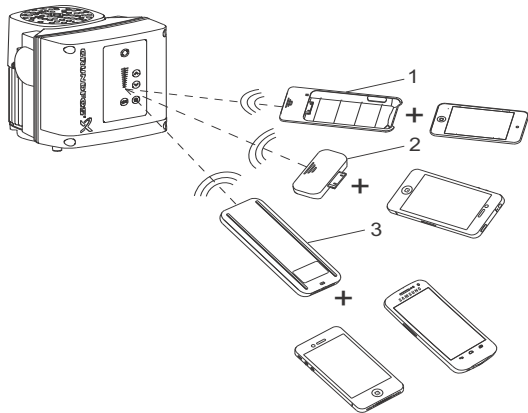

Fig. 31 Grundfos GO Remote communicating with the motor via radio or infrared light
The Grundfos GO Remote offers three different mobile interfaces (MI). See fig. 31: